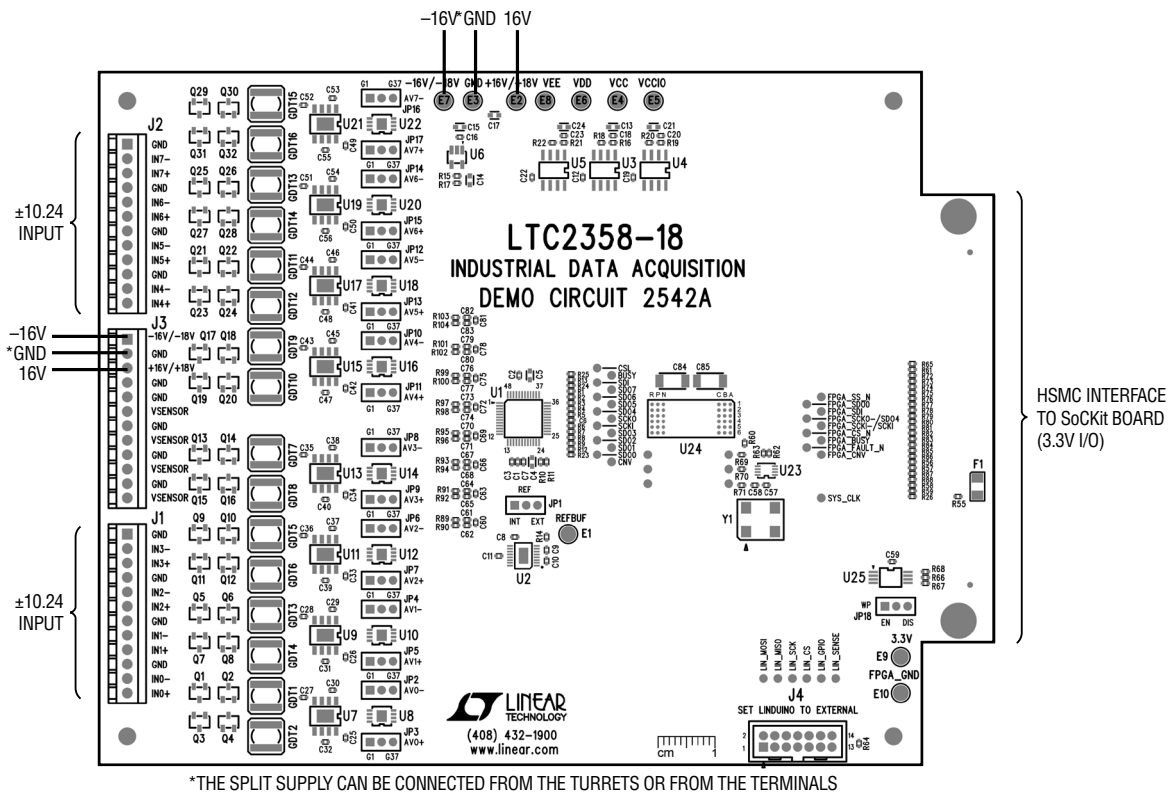

Figure 1. Connection Diagram
- 6) Apply  $\pm 16V$  to the indicated terminals. Refer to Figure 1 for locations.